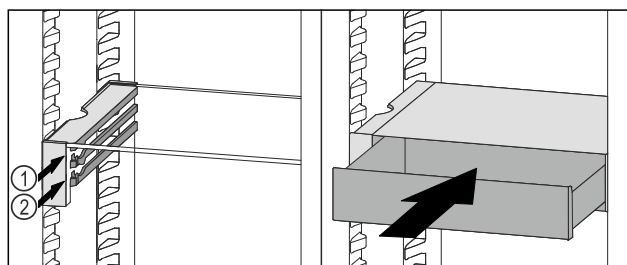

Fig. 198
- Place the VarioSafe drawer behind the stoppers on desired rib *Fig. 198 (1)* or *Fig. 198 (2)*.